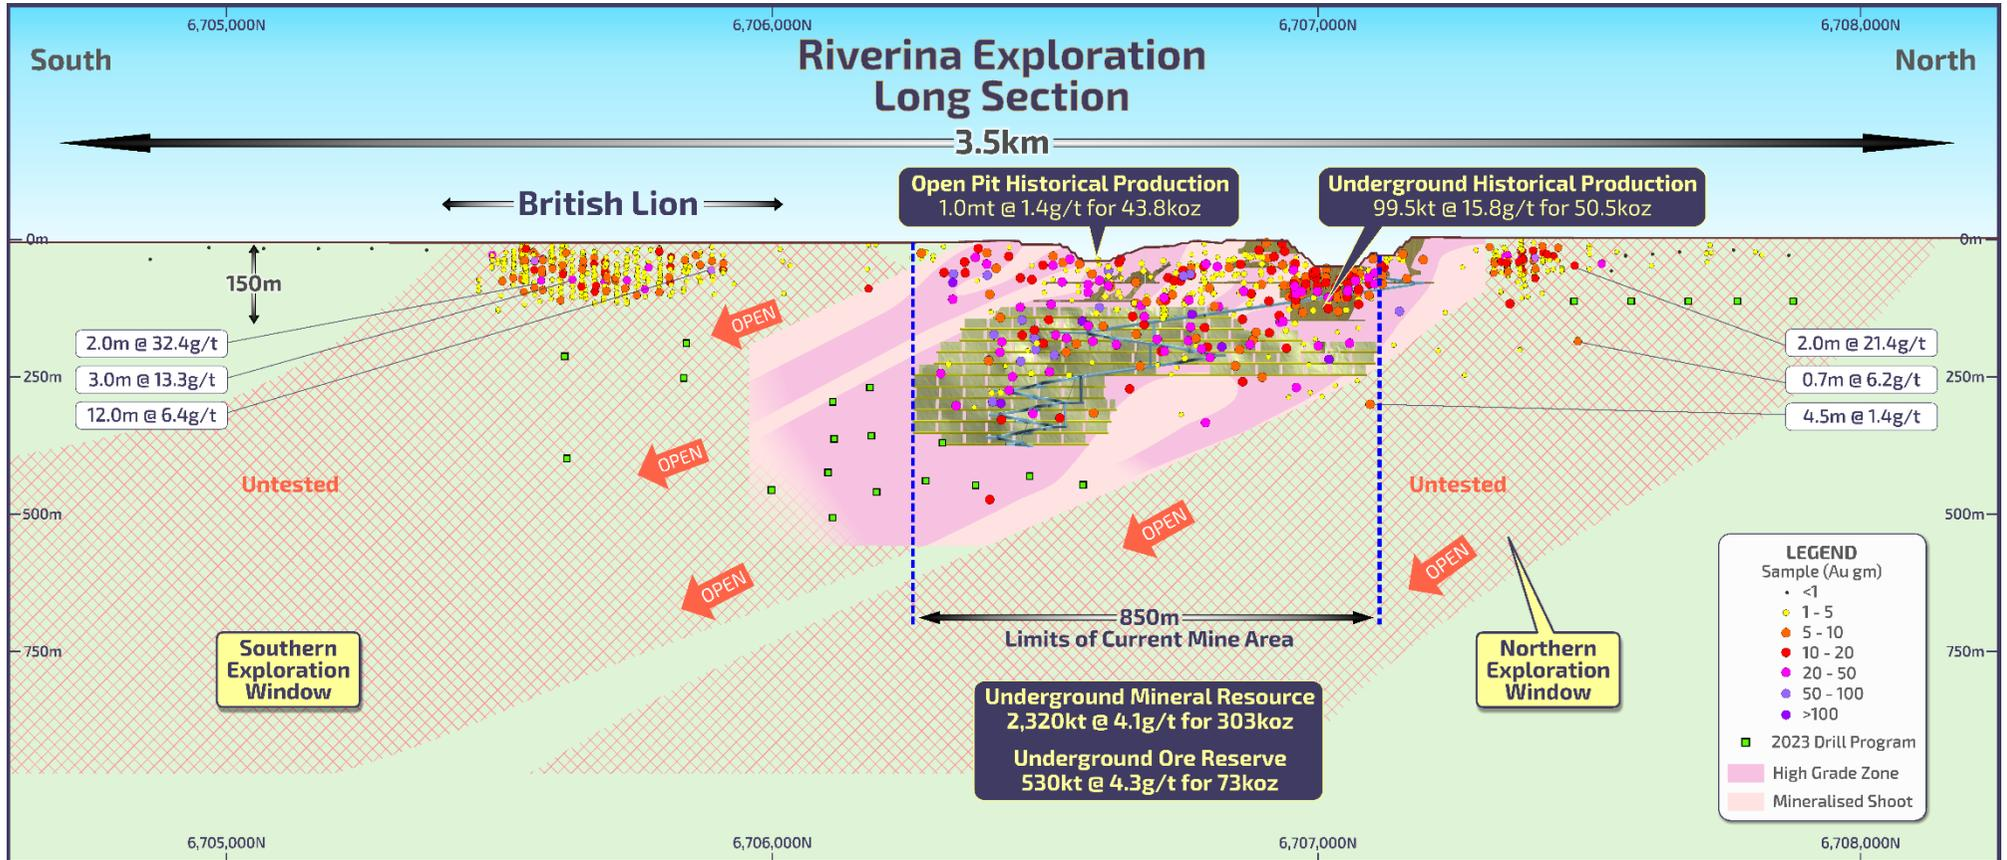

Figure 3 – Riverina South Long Section showing exploration window below the British Lion deposit.
- Deep drilling under British Lion, targeting high grade Riverina style mineralisation, has commenced (see Figure 3) targeting a second underground mine